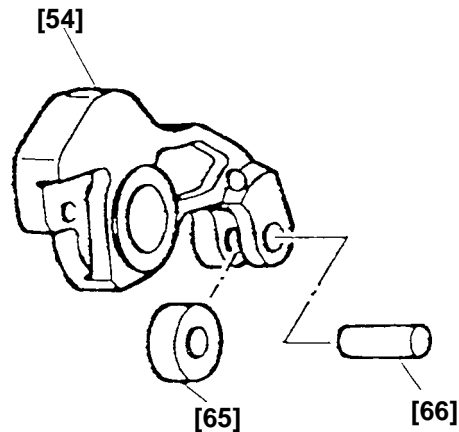

Fig. 26
(ii) Removal of Roller (A) [65] (Fig. 26)